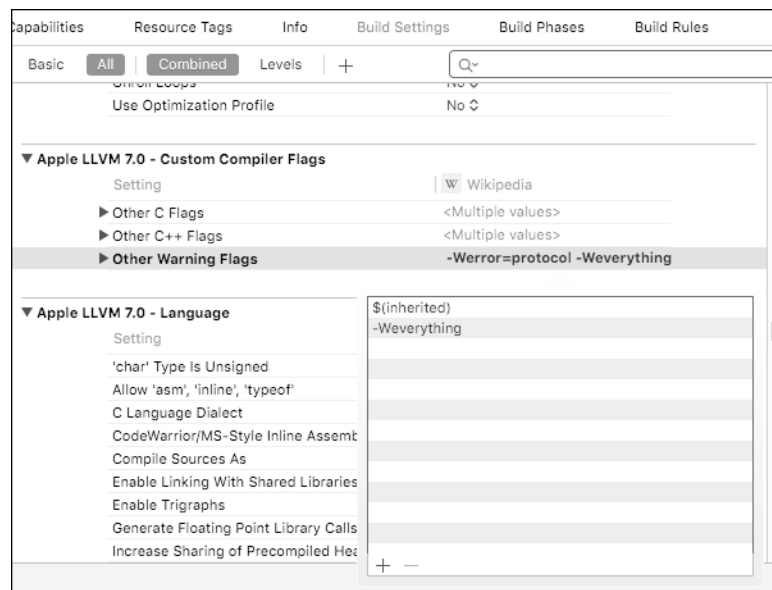

Figure 4-9: This setting enables all warnings, including options for which there is no exposed UI.
Note that not every build warning that clang supports has an exposed toggle in the Xcode UI. To develop in "hard mode," you can add the -Wextra or -Weverything flag, as in Figure 4-9. Not all warnings will be useful, but it's best to try to understand exactly what an option intends to highlight before disabling it.
-Weverything, used in Figure 4-9, is probably overkill unless you're curious about clang internals; -Wextra is normally sufficient. To save you a bit of time, Table 4-1 discusses two warnings that are almost sure to get in your way (or that are just plain bizarre).